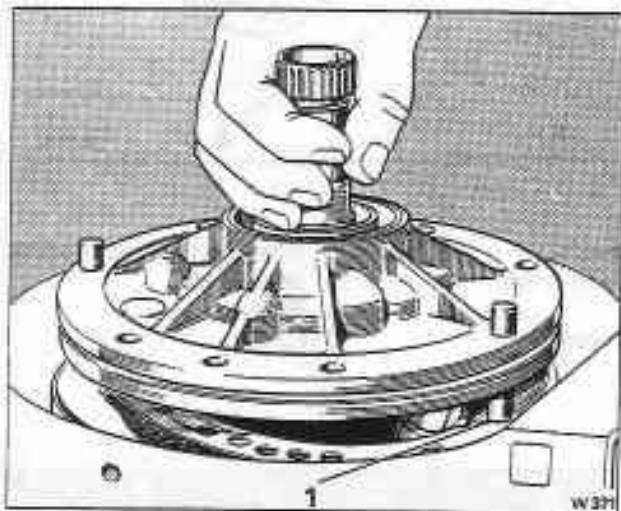

Fig. T17-7 Fitting the oil pump
3. Fit the pump assembly (see fig. T17-7). Ensure that new seals are fitted to the setscrews.